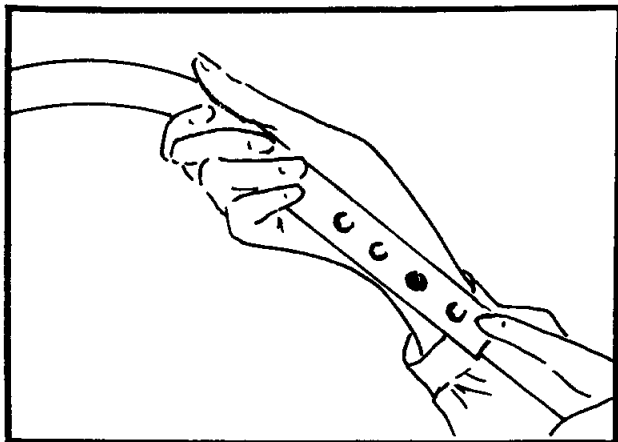

FIGURE 36
42. Adjust bed bow support as necessary to make the tent enclosure over the bed taut. This is done by pressing the release button on the pole and extending the rod to the next hole location. See Figure 36.